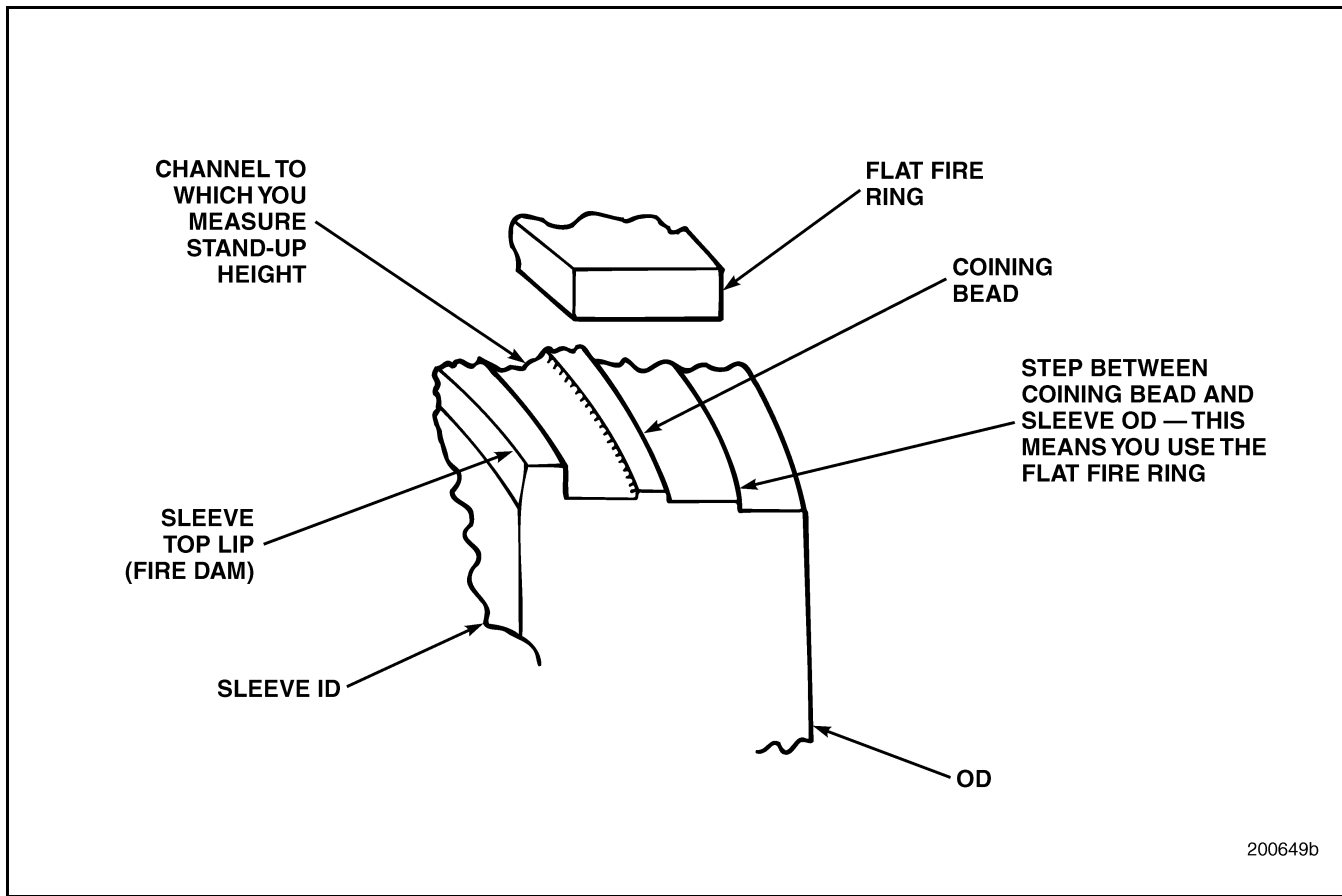

Figure 147 — Cylinder Sleeve/Fire Ring Configuration
6. After the cylinder sleeve is fully seated, use depth gauge J 26948, or equivalent, to check the flange height-above-deck dimensions. The specified dimension is 0.023–0.029 inch (0.584–0.737 mm). The measurement should be taken in the channel between the sleeve top lip (fire dam) and the coining bead. Refer to Figure 147.